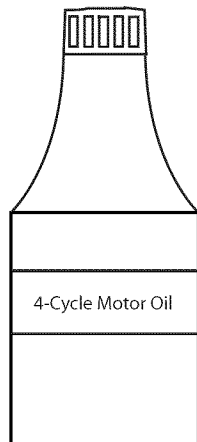

Fig. 1
Your unit is supplied with one 1.7 fluid oz. (50 mL) bottle of SAE 10W-40 SF, SG or SH oil (Fig. 1).
1. Unscrew the top of the bottle of oil and remove the seal covering the opening. Replace the top (Fig. 1).